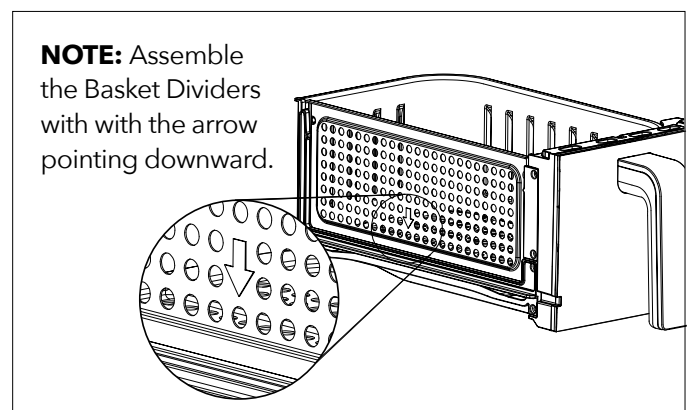

Fig. 1
3. Orient a Basket Divider so that the arrow is outside of the basket and pointing downward (see **Fig. 1**). Push the Basket Divider all the way into the basket's groove slot.